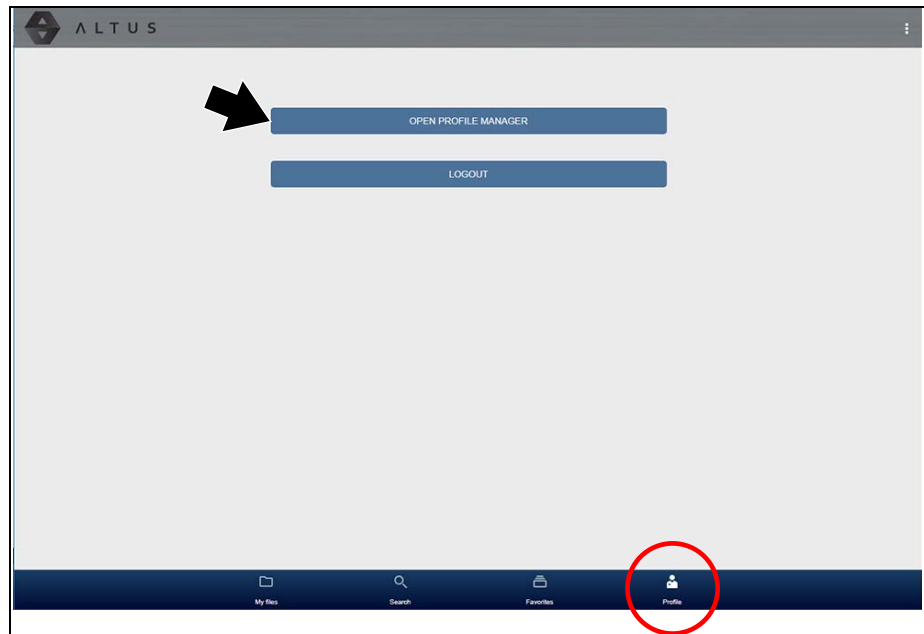

Figure 13-16
- Open Profile Manager (Figure 13-16), see Using Profile Manager, on page 151,
1. To open the Profile Manager screen, select **Profile** from lower toolbar, then select **Open Profile Manager** (Figure 13-16).